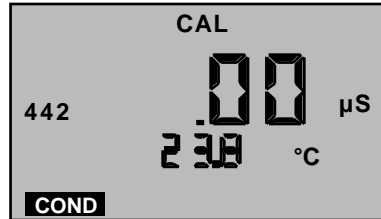

Figure 5
c. Press  or , then press , “**CAL**” icon will appear on the display (see Figure 5).